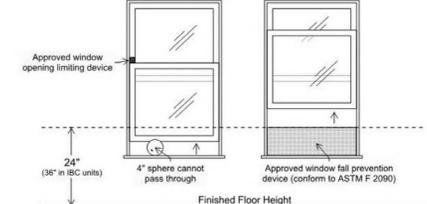

Figure 2: Window fall protection
- Operable windows with openings that, when in their largest opened position, will not allow the passage of a 4-inch sphere (see Figure 2).
- Operable windows that are provided with window fall prevention devices that comply with ASTM F 2090 (see Figure 2).
- Operable windows that are provided with opening control devices that comply with ASTM F 2090 (see Figure 2). (Note: When installed on required emergency egress windows, these devices must not reduce the net clear opening less than the minimum required size or dimensions; see Tip Sheet 10 for more information.)
- In dwelling units regulated by the IRC where the sill height of an operable window above exterior finished grade is more than 75 feet, provide window fall prevention devices complying with ASTM F 2090 (see Figure 2).